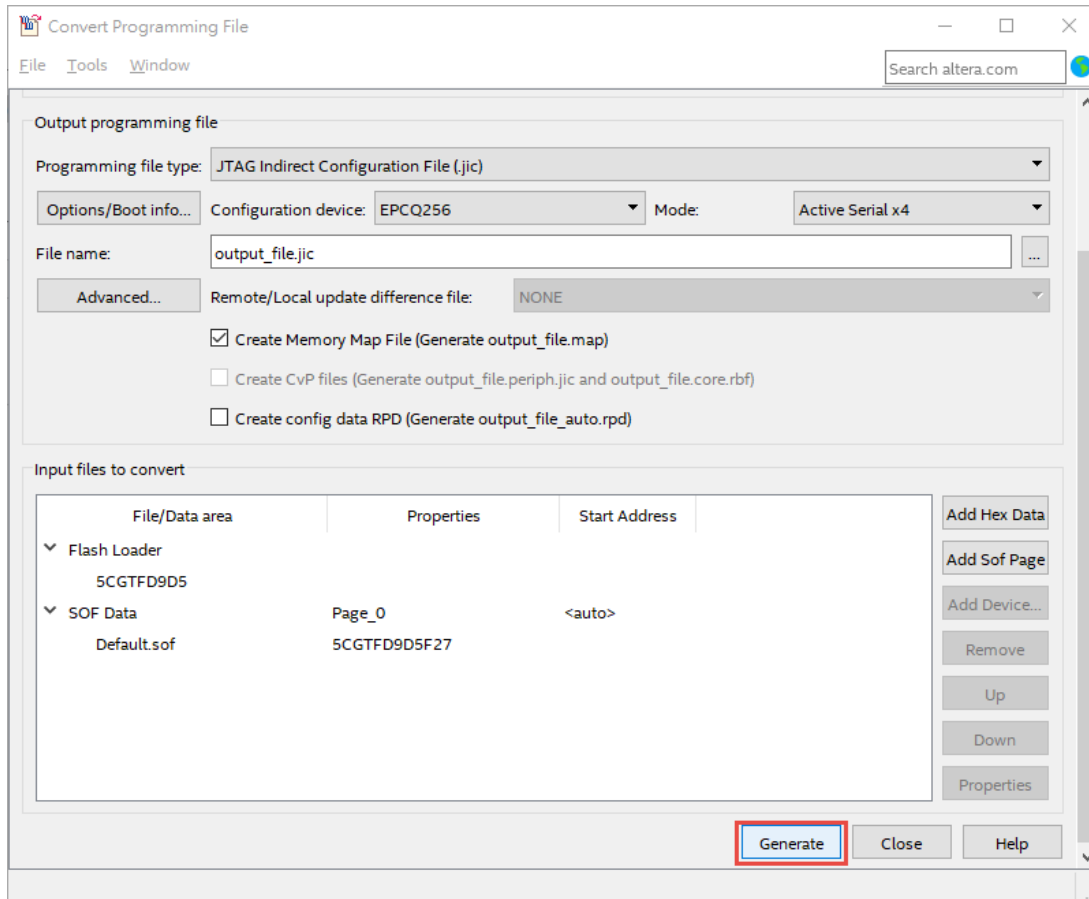

Figure 6-6 Convert Programming Files page
13. Click **OK** and the Convert Programming Files will appear, as shown in **Figure 6-6**.